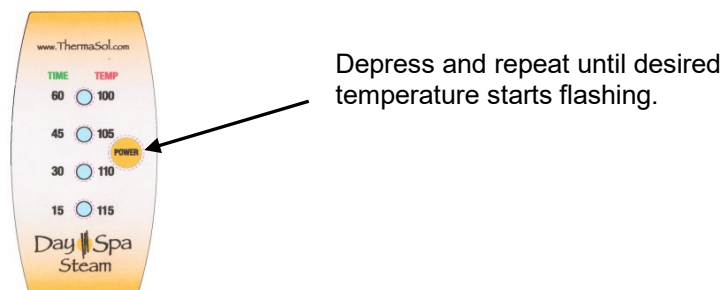

Figure 9
3. **Changing Session Temperature.** After the time has been selected, the red 100° LED will automatically start flashing. If this is the desired temperature, wait 4 seconds and that temperature will be accepted by the control and the generator will start. If a different temperature is desired, momentarily press the “Control Button”. Repeat until the red LED associated with your desired temperature starts flashing. Once the desired temperature is flashing, wait 4 seconds and that temperature will be accepted by the control and the steam will start. **(Figure 9)**